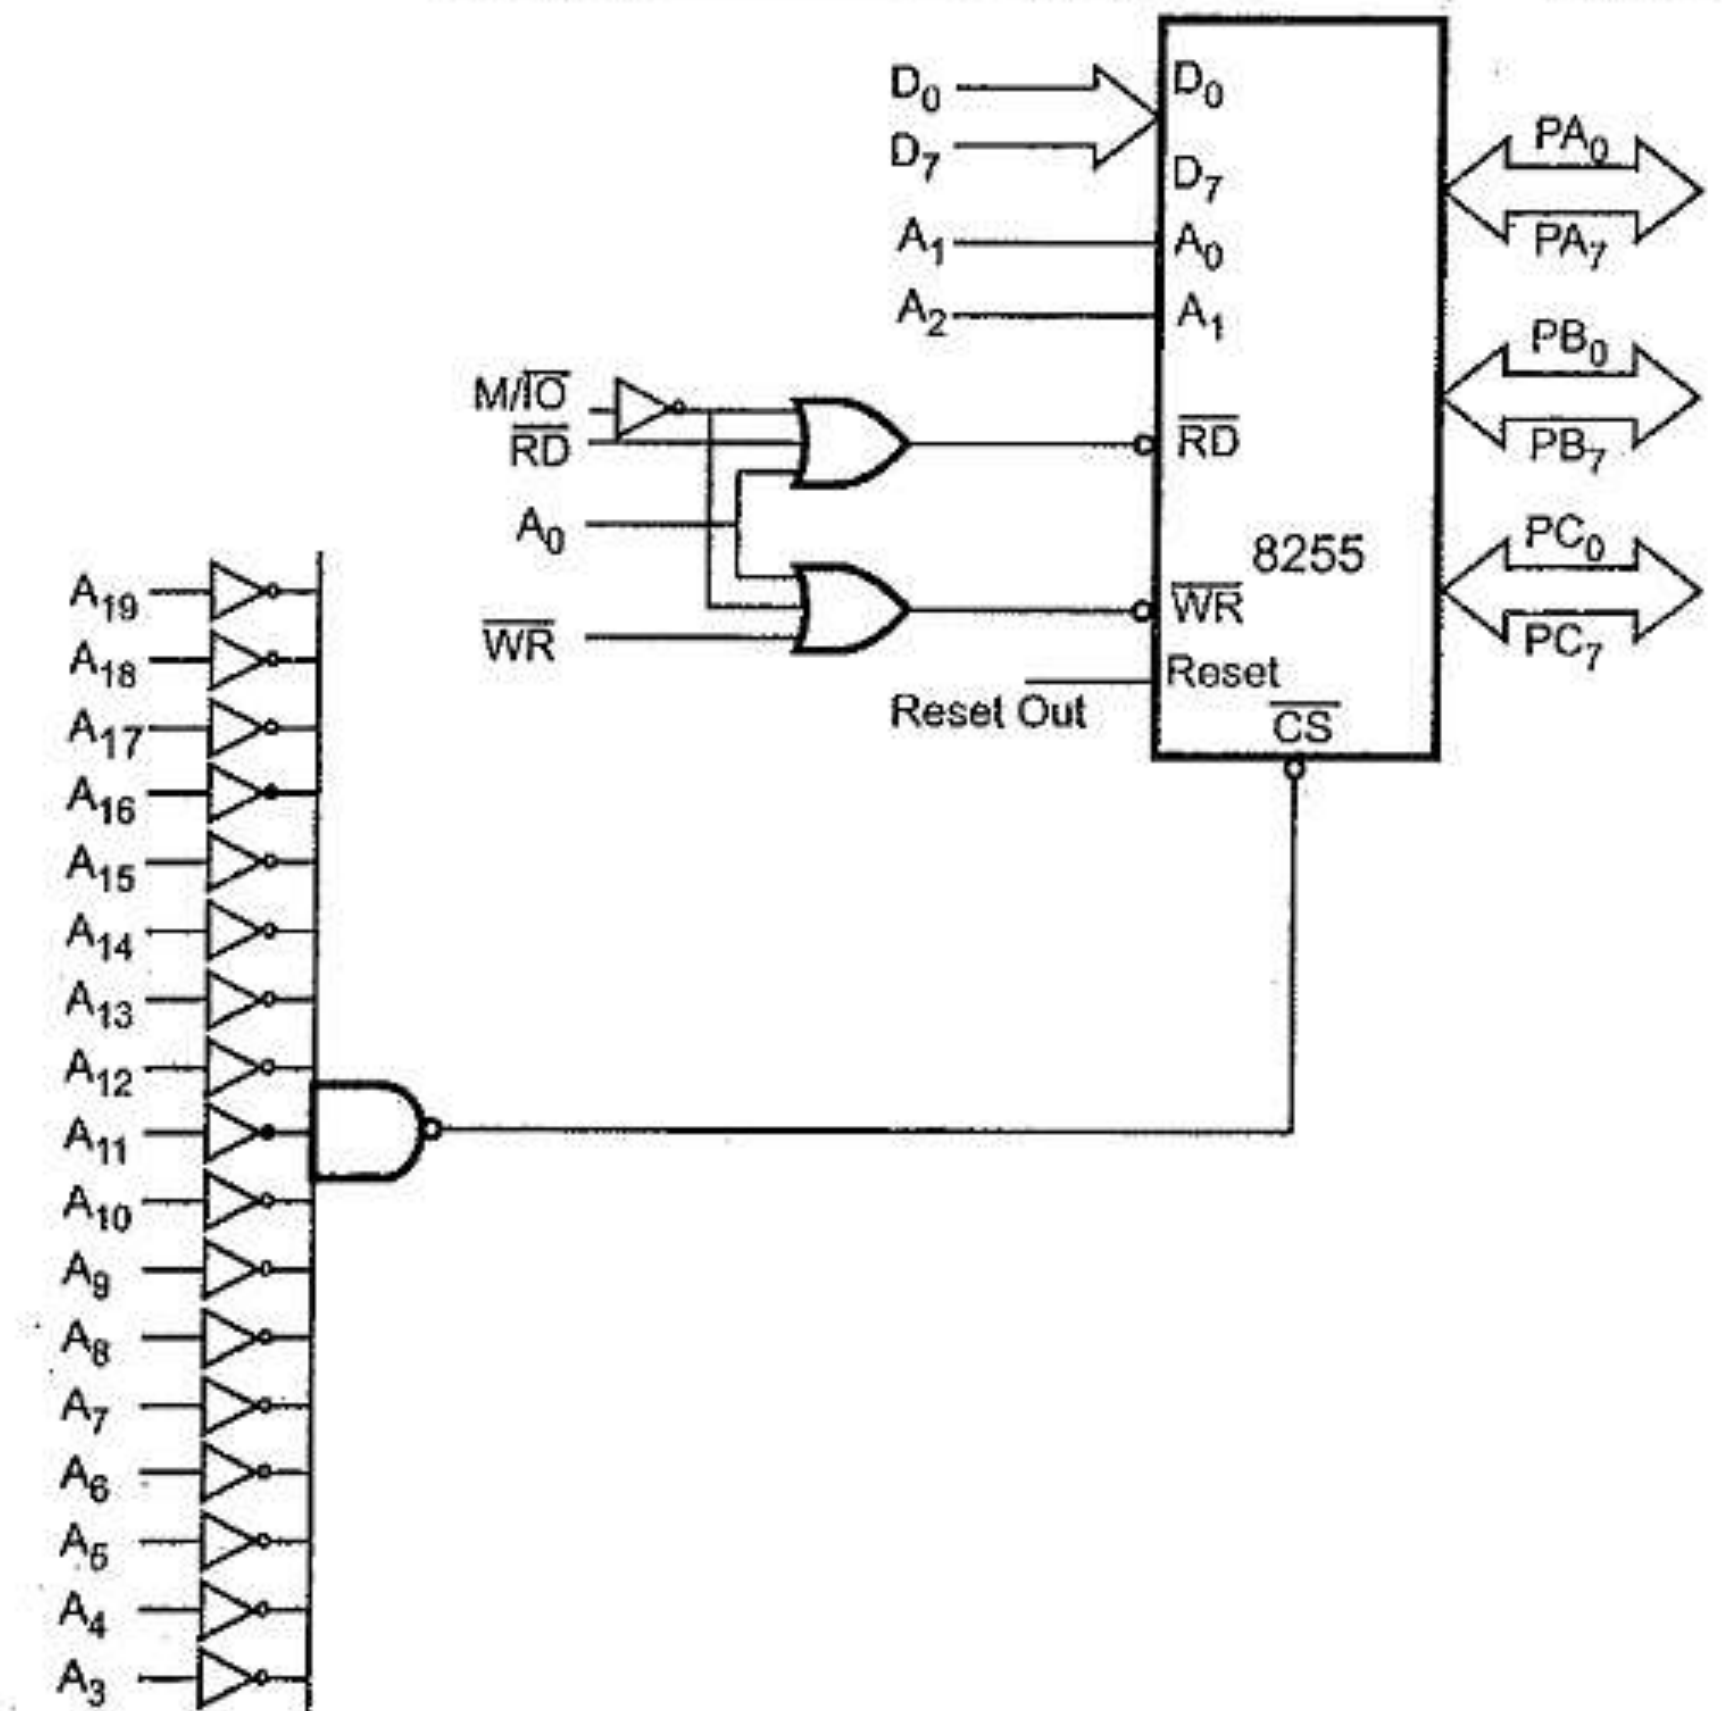

Fig. 14.20 Memory mapped I/O
- In this type of I/O interfacing, the 8086 uses 20 address lines to identify an I/O device; an I/O device is connected as if it is a memory register. The 8086 uses same control signals and instructions to access I/O as those of memory. Fig. 14.20 shows the 8255 Interfacing with 8086 in memory mapped I/O technique. Here RD and WR signals are activated when M/IO signal is high, indicating memory bus cycle. Address lines A0 – A1 are used by 8255 for internal decoding. To get absolute address, all remaining address lines (A3 – A19) are used to decode the address for 8255. Other signal connections are same as in I/O mapped I/O.